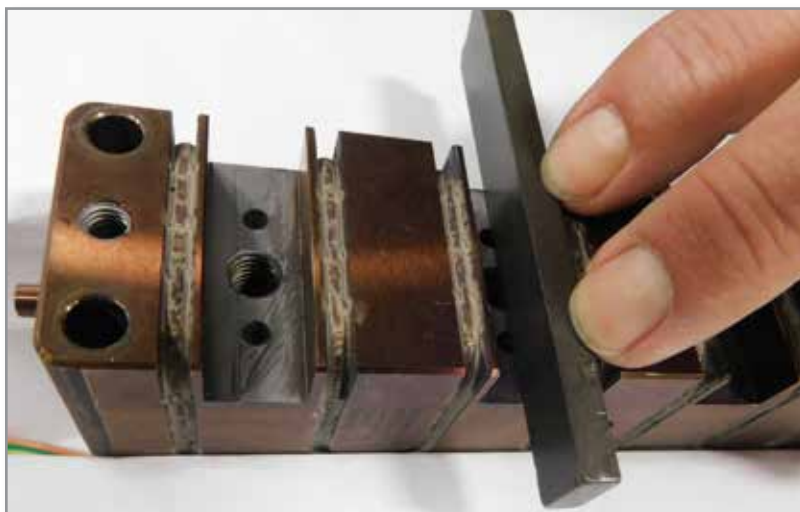

Figure 5-86 Clean manifold interfaces
2. Clean the manifold interfaces with a fine grade (400 or 600 grit) polishing stone. See Figure 5-86.
7. Clean the manifold interfaces on Melt-Cube using a fine polishing stone. See Figure 5-86 Clean manifold interfaces on page 5-141.